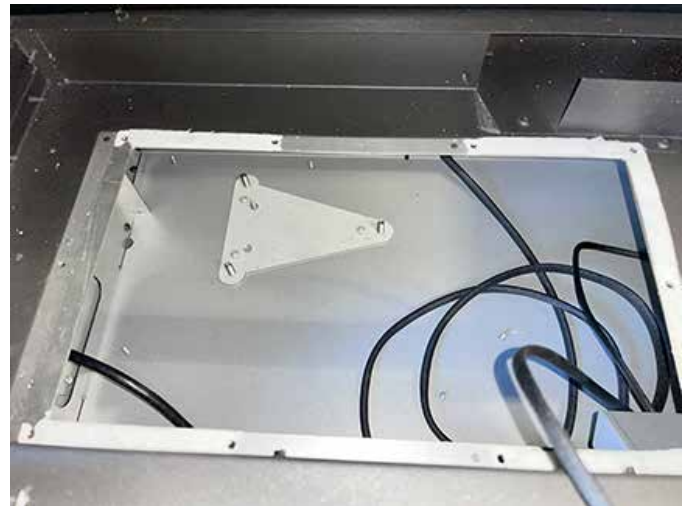

Figure 71: Left Blower mounting bracket
8. Once the left access cover is removed you will see the blower mounting bracket on the bottom casing floor. Figure 71.